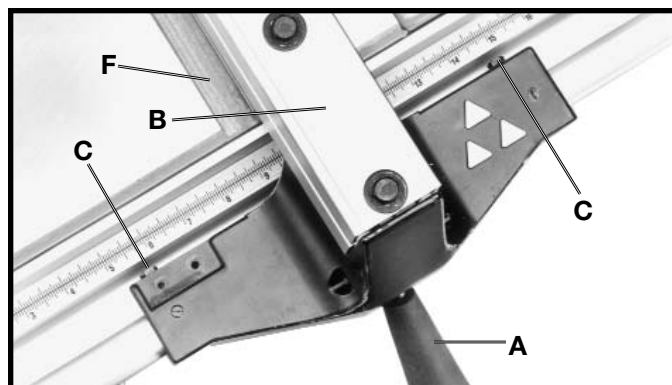
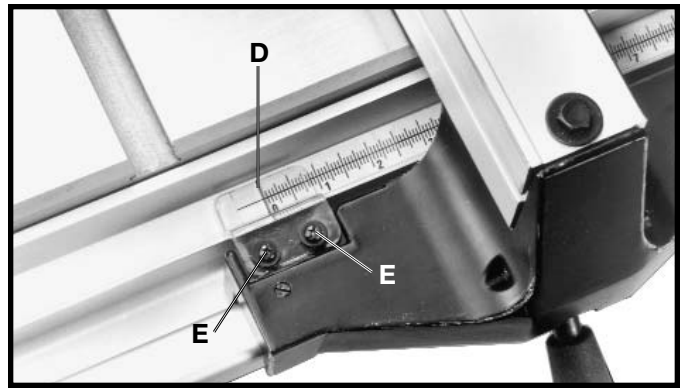

Fig. 62
Fig. 64
1. To move the rip fence, raise the lock handle (A) Fig. 62, as far as it will go and move the fence to the desired position on the table. When the lock handle (A) Fig. 62, is pushed down, clamping action on the rip fence (B) should be adequate. However, if the clamping action is too loose or too tight, an adjustment can be made by equally tightening or loosening two screws (C) as necessary. **NOTE:** It will be necessary to remove the cursor (D) Fig. 64, to make this adjustment
2. Position the fence (B) Fig. 62, along one edge of the miter gage slot (F) as shown and lock the fence in that position. The edge of the fence (B) Fig. 62, should be parallel to the miter gage slot (F). If an adjustment is necessary, proceed as follows:
3. Tighten or loosen either of two screws (C) Fig. 62, as necessary, until the fence (B) is parallel to the miter gage slot. **NOTE:** It will be necessary to remove the cursor (D) Fig. 64, to make this adjustment. Readjust the clamping action on the fence; if necessary, refer to **STEP 1**. Re-assemble the cursor.
5. Depending on the type of saw blade being used, the cursor (D) Fig. 64, may need adjustment to compensate for the blade thickness. To adjust the cursor, make a test cut on a piece of lumber and measure the finished cut, or you can place the rip fence against the blade as shown earlier in the manual. If a minor adjustment is necessary, loosen two screws (E) Fig. 64, and move the cursor (D) as necessary.